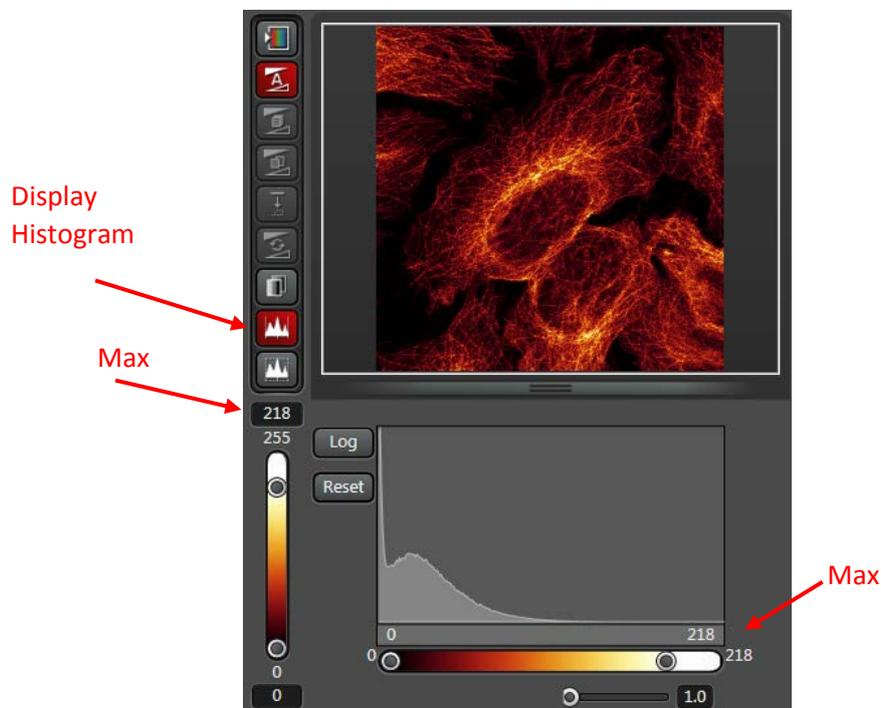

Fig. 2: Image acquisition: displaying the histogram and checking for the max intensity value.
SP8: max appears in a box case at the top of the intensity/color bar (Fig 2);
2- In the live mode, display the histogram and check if the max value (Fig 2) (in the areas where you need to quantify) is below the nonlinear range values (look at the table)
- 2- In the live mode, display the histogram (Fig 2.)